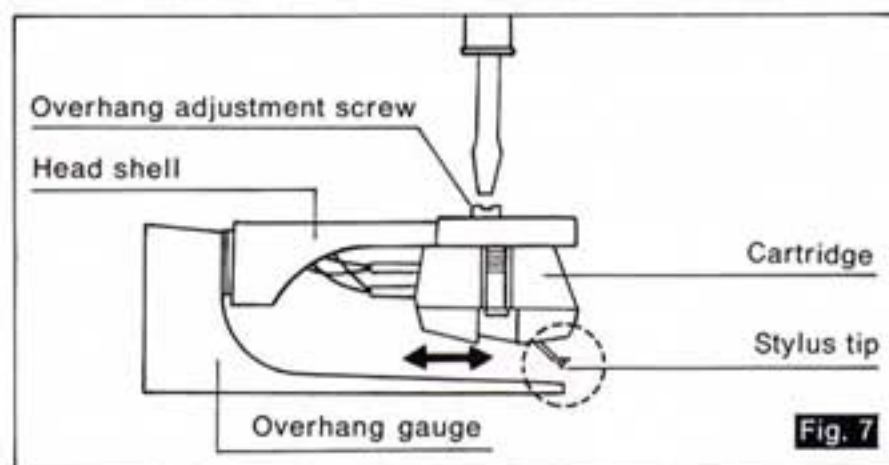

Fig. 7
3. Insert the head shell into the gauge. (See Fig. 7)